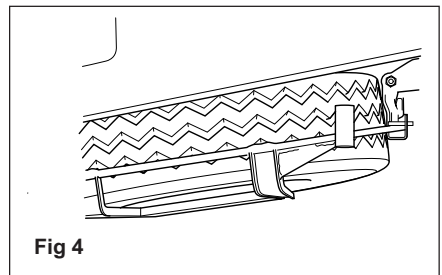

Fig 4
- It is stowed as shown in Fig 4.